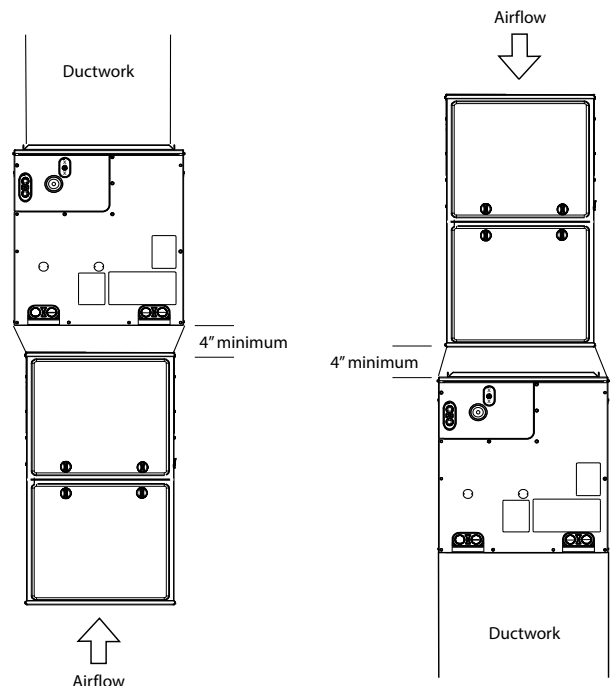

Fig. 3 – Adapter(s) Installation When Coil is Larger than Furnace (recommended) A221122A
3. When installing wider coil on narrower furnace, it is recommended to use a transition adapter (Fig. 3).